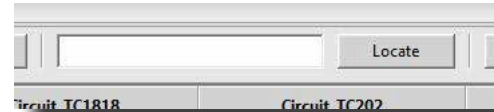

Figure 38: Plant Editor - Locate Object
2. Locate an object: To find an object of a specific type in the grid view, select the type from the dropdown list (Figure 35), input the object name in the textbox next to the "Locate" button and click "Locate" (Figure 38).